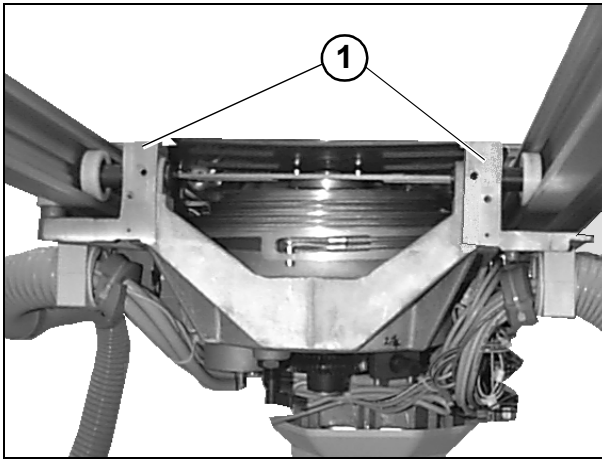

Fig. 8
- Check the set screws to secure the roller bearings (1/Fig.8), **13 Nm**.